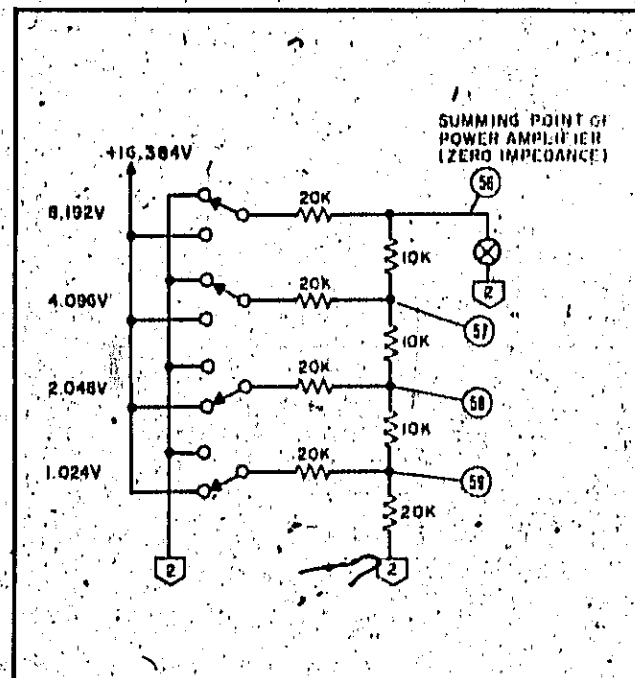

Figure 4-5. Ladder Network, Simplified Schematic
4-79 In the simplified schematic of Figure 4-5, the switching transistors are represented by mechanical switches connecting each of the four rungs in the analog ladder network to either 16,384V or ground ②. Again, the switch positions represent the binary input of 1100, the four most significant bits of the inverted input of 4 volts.
4-82 Potentiometers A3R52 through A3R59 are adjusted to compensate for the conducting resistances of Q2-Q3 and resistance tolerances within the network. With these controls properly adjusted, the total series resistances in each rung are 20K Ω as shown in Figures 4-5 and 4-6. Notice that the output current of each of the four ladder networks are weighted in powers of 16. Thus, resistor A3R92 divides the output current of that rung by 16, resistors A3R93, R94 divide the next rung output current by 256 and resistors A3R95, R96 divide the output current of the remaining rung by 4096.